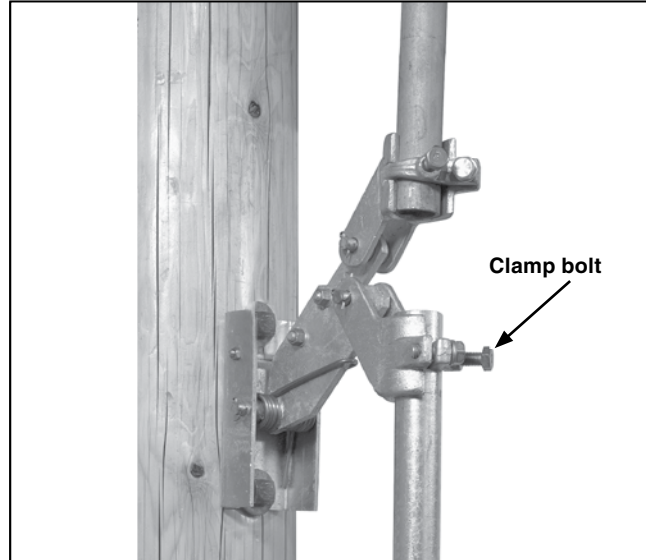

Figure 28. Torquing the clamp bolt at the lowest rod guide (or switch operating lever) coupling.
STEP 26. If there is still slack, repeat the procedure in Step 21 but move the operating handle *more* than 20 degrees in the opening direction before torquing the clamp bolt on the lowest rod guide (or switch drive lever) coupling. See Figure 28.